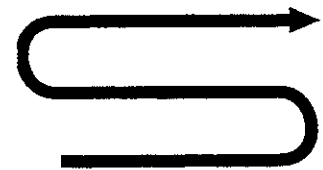
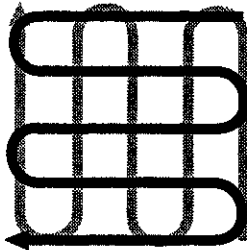
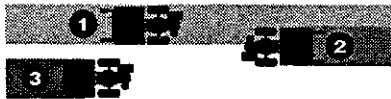

Figure 4-6
Figure 4-7
Figure 4-8
- When preparing the soil, till a fresh path on each pass rather than overlapping passes. This gives the wheels maximum traction on undisturbed soil (later passes can be overlapped). See Figure 4-6. Dig as deeply as possible on each pass, without overloading the engine. (Watering the garden area a few days prior to tilling will make tilling easier, as will letting the newly worked soil set for a day or two before making a final, deep tilling pass.)
- When preparing a seedbed, go over the same path twice in the first row, then make individual passes right next to each other (see Figure 4-6). When finished in one direction, make second passes at a right angle as shown in Figure 4-7. In very hard ground, it may take three or four overlapping passes to thoroughly pulverize the soil. (See Figure 4-8.)
- If the garden size will not permit lengthwise and then crosswise tilling, then overlap the first passes by one-half a tiller width, followed by successive passes at one-quarter width (see Figure 4-8).